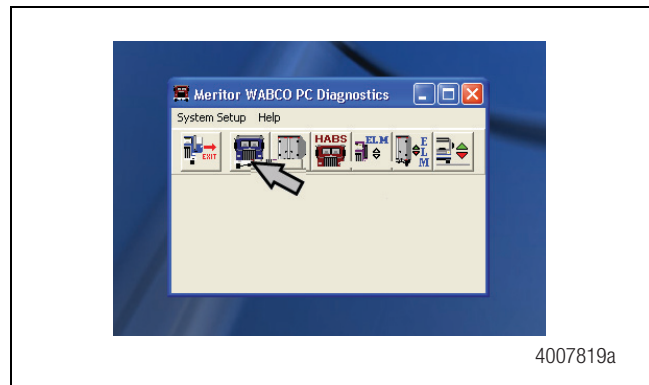

Figure 9
2. From the message box, click on the Pneumatic ABS button. Figure 9.